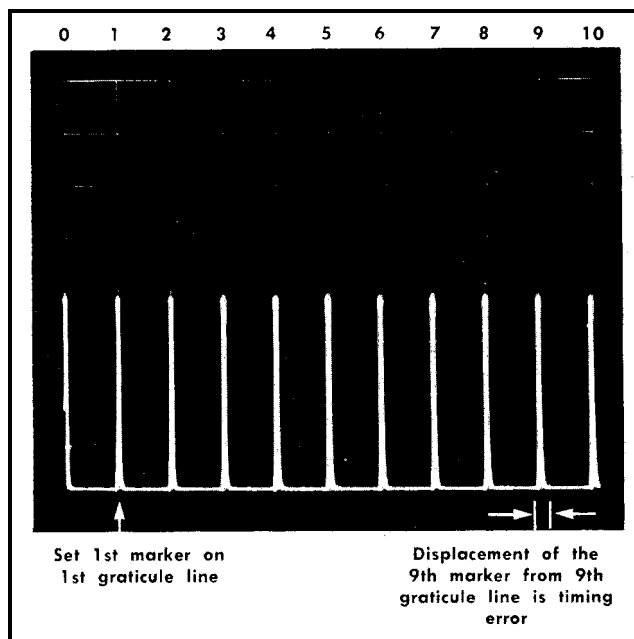

Fig. 5-1. Time markers aligned to check sweep timing.
f. Adjust the position control to position the 1st marker to the 1st graticule line (see Fig. 5-1), then check the sweep timing for each position of the TIME/DIV selector. Marker input, TIME/DIV selector and type of display is listed in Table 5-1.